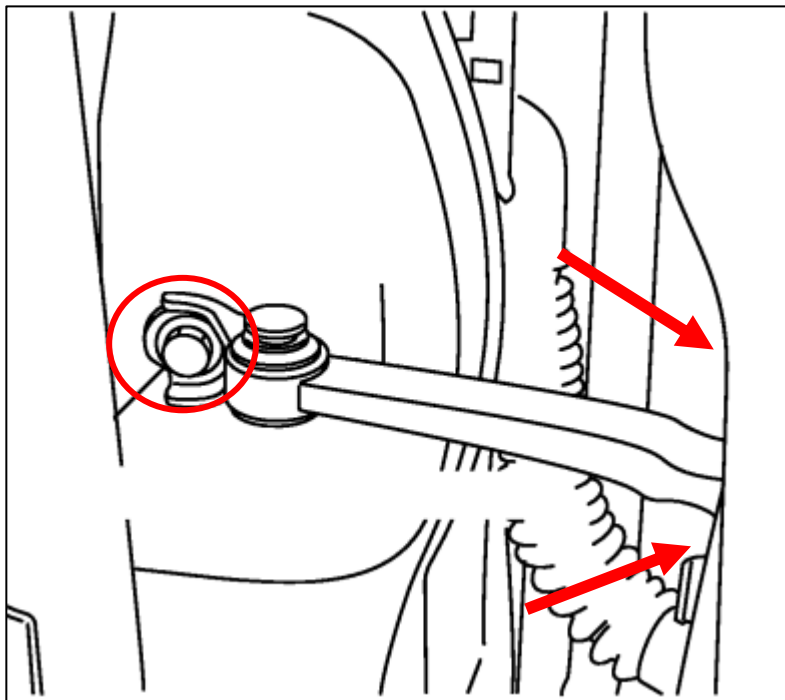

Figure 17
14. Open the door as wide as you can. Remove the (3) three Bolts in the Door securing the Check Link. *Figure 17.*